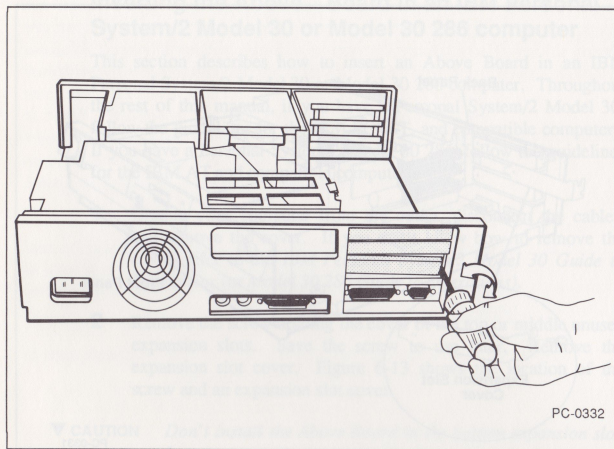

Figure 6-14 *Removing the plastic insert*
- 3 The expansion slots are covered by plastic inserts on the outside back panel of the system unit. Use a flat-blade screwdriver to remove the plastic insert that corresponds to the expansion slot cover you removed in step 2. Figure 6-14 shows how to remove the insert.